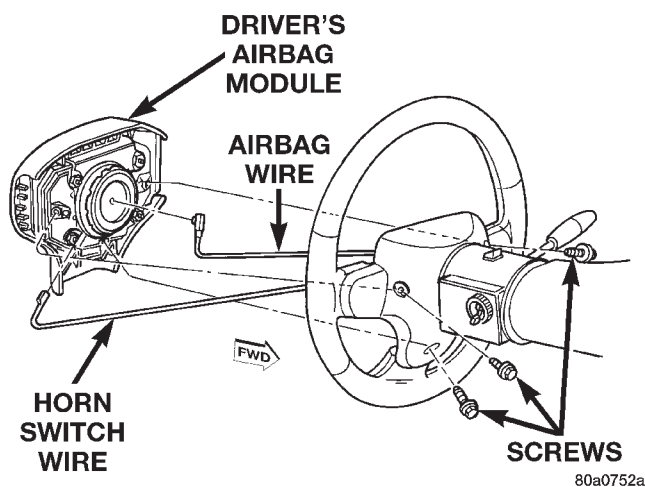

Fig. 5 Driver's Airbag Module Remove/Install
- (1) Disconnect and isolate the battery negative cable.
- (2) Remove the three screws securing the driver's airbag module to the steering wheel (Fig. 5).